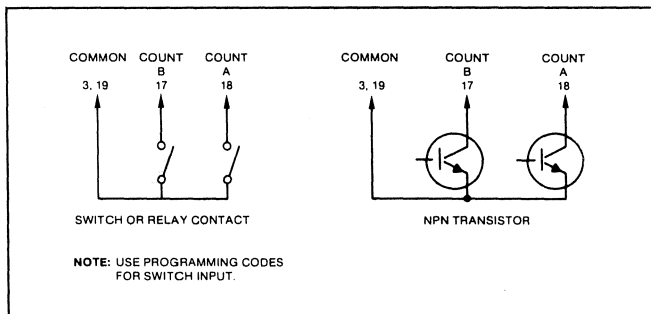
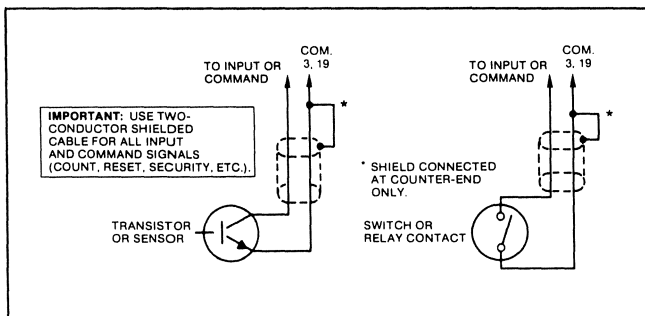

Figure 4-7. Connection of Count Inputs.
Figure 4-8. Use of Shielded Cable.
- Wire count signal sources to Input-A and/or Input-B as the application requires (refer to Section 5 for input methods). Signal source must be isolated contact or NPN open collector transistor. Refer to Figure 4-7 for connection of count inputs and Figure 4-8 for recommended use of shielded cable. For easy reference of terminal assignments, refer to Figure 4-9.
**CAUTION: ALL COUNT SIGNAL OR CONTROL COMMAND INPUTS MUST BE CONNECTED VIA TWO-CONDUCTOR SHIELDED CABLE. REFER TO FIGURE 4-8 FOR RECOMMENDED WIRING METHOD.**
All control command inputs must be connected via two-conductor shielded cable (refer to Figure 4-8 for recommended use of shielded cable).
**Note:** It is recommended that two-conductor shielded cable be used between the counter and switch. Refer to Figure 4-8.